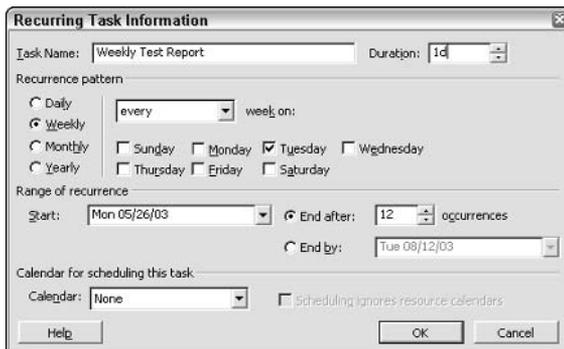

Figure 4-7: If a task occurs at regular intervals during the life of a project, you can save time by creating it as a recurring task.
1. Because Project inserts tasks above the selected task, select the task that you want to appear below the recurring task and choose Insert→Recurring Task to open the Recurring Task Information dialog box, as shown in Figure 4-7.
5. Select the appropriate settings for the recurrence frequency. For a Weekly setting, place a check mark next to the day(s) of the week on which you want the task to occur. For example, the task shown in Figure 4-7 occurs every Tuesday. For the Monthly or Yearly setting, select the day of the month on which you want the task to occur. The task in Figure 4-8 occurs on Day 9 of every month.